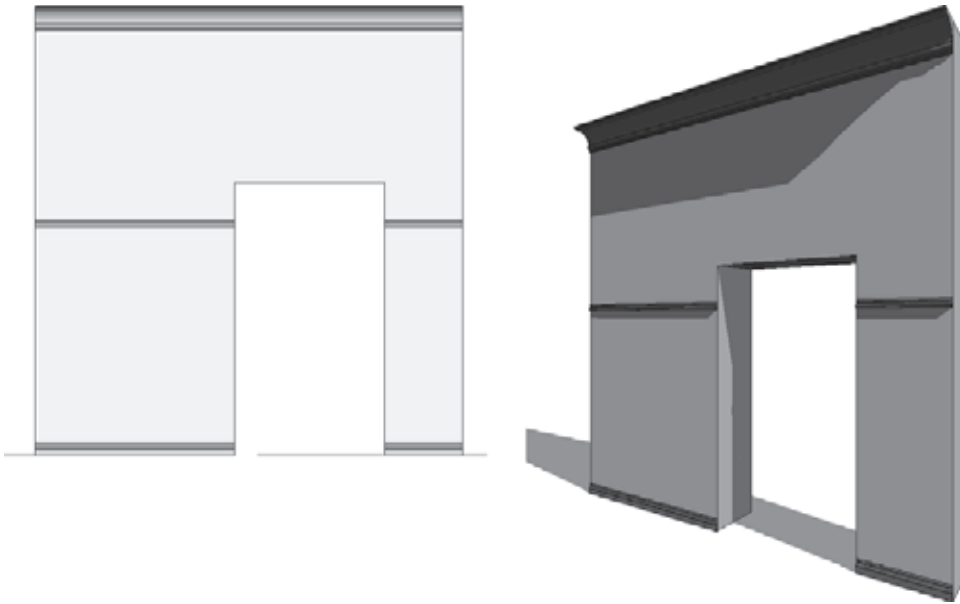

Figure 6.25
5. Switch to the Modify tab, select the Openings tool, pick the wall, and draw an opening that intersects the sweep, as shown in Figure 6.25.